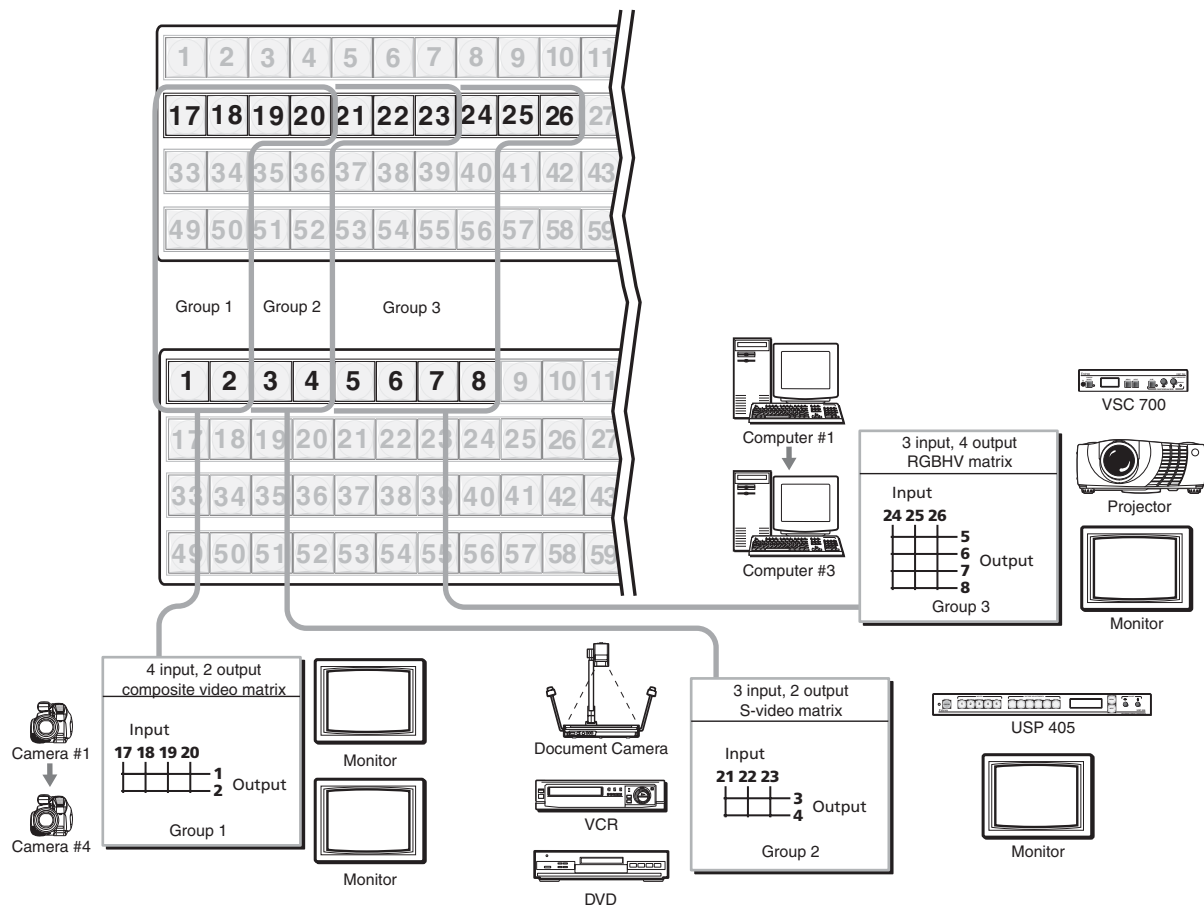

Figure 3-28 — I/O grouping of incompatible video formats
- Segregating specific video formats to prevent an input in one video format from being inadvertently applied to an output device that supports another video format (figure 3-28).